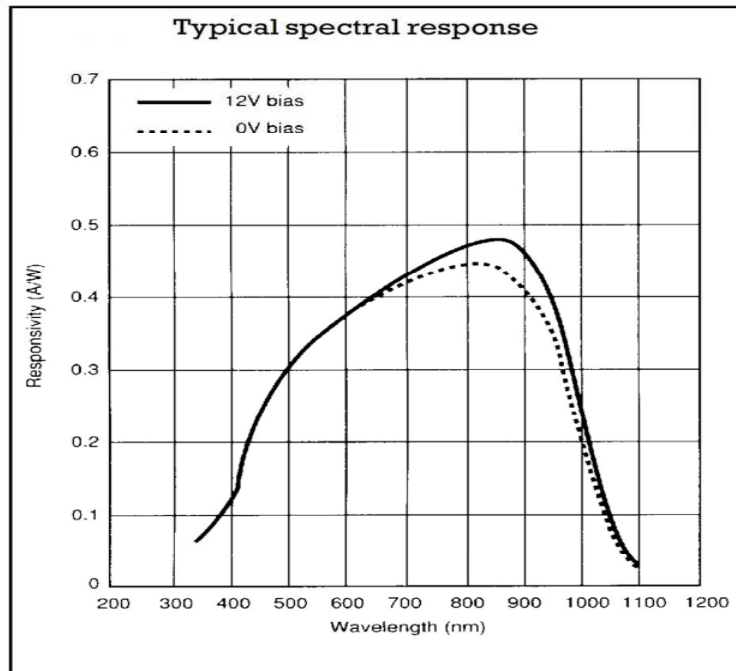

Figure 3: Responsivity Versus Wavelength for the Medium Area Photodiode.
Where \bar{R} is the photodiode responsivity (see Appendix C). The variation of \bar{R} with λ for the medium area photodiode used in this experiment is shown in Figure 3.
For normal operation, the photodiode is *reversed biased* (i.e. $V_d < 0$). The responsivity \bar{R} of the diode is *largely independent* of the bias voltage, *as long as the diode is reversed biased*. When the diode has zero bias (i.e. $V_d = 0$), \bar{R} decreases slightly below the reversed bias value. This effect can be seen clearly seen in Figure 3, where the 12 V indicated in the figure refers to the value of the reverse bias voltage. However, when the diode is *forward biased*, \bar{R} begin to drop, reaching negligible values when the forward is sufficiently high. It is thus important to keep in mind that the diode *responsivity decreases drastically when the diode is forward biased*. This important feature of the photodiode will be observed in this experiment.
- 6- Use Figure 3, equation (1) and the ammeter reading of step (5) to estimate the output power of the HeNe laser. Record the value in table 2.